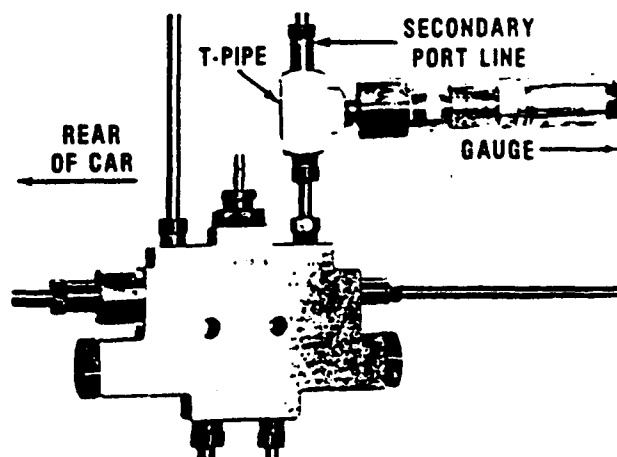

Fig. 17 — Secondary port line reattachment
3. Reattach the master cylinder secondary port line to the T-pipe (Fig. 17).